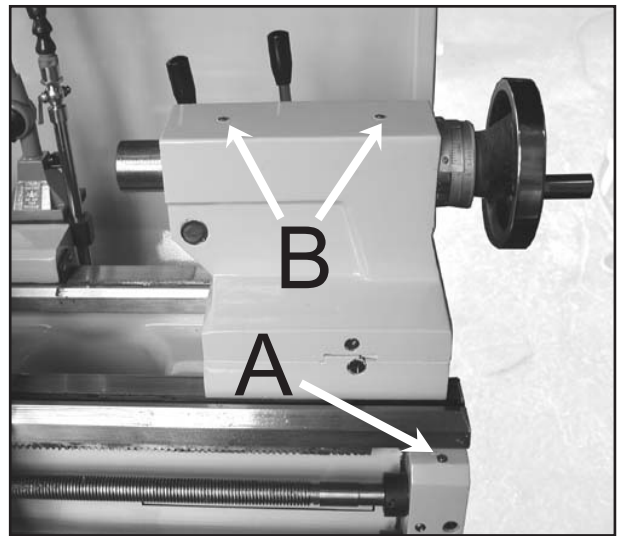

Fig. 7
3. Leadscrew Feed Rod - lubricate ball oiler (A, Fig. 7) on leadscrew/feed rod bracket with Mobil DTE® Oil Heavy Medium once daily.
4. Tailstock - lubricate two ball oilers (B, Fig. 7) on tailstock with Mobil DTE® Oil Heavy Medium once daily.